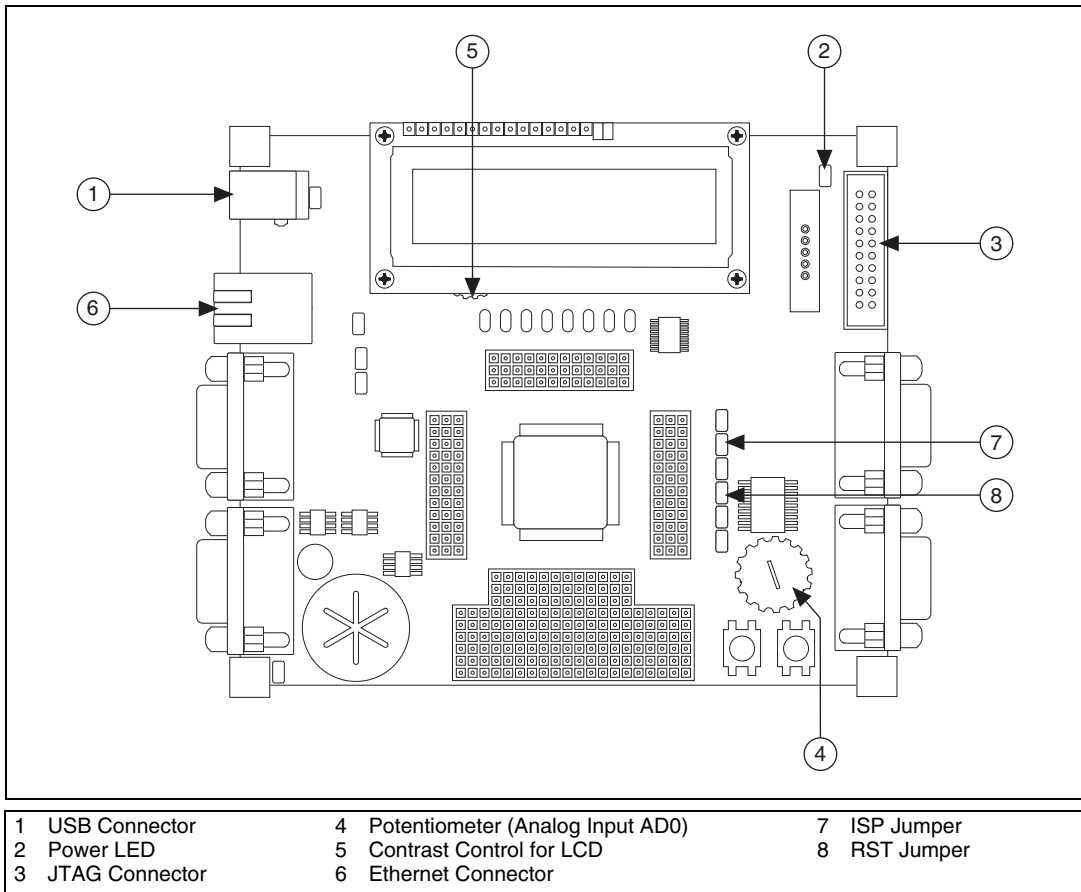

Figure 1. Locating Parts for the MCB2300 Installation
Figure 1 shows the location of some of the parts on the MCB2300 evaluation board. Refer to the hardware documentation for more information about the evaluation board.
5. Verify that the RST and ISP jumpers are off if you plan to use the COM0 port. Refer to Figure 1 to locate the RST and ISP jumpers. Refer to the jumper settings configuration topic in the *MCB2300 User's Guide*, available by navigating to `Keil\ARM\HLP` and opening `mcb2300.chm`, for information about configuring jumpers for other programming utilities, such as Flash Magic.